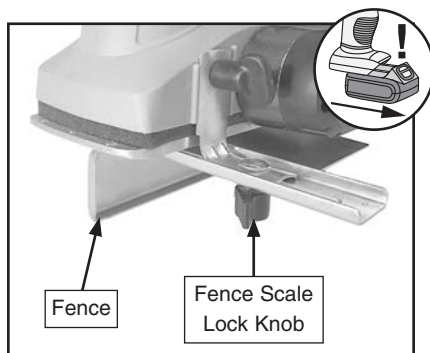

Figure 14. Location of adjustment components.
2. Loosen fence scale lock knob (see **Figure 14**) to adjust fence for width of rabbet cut.